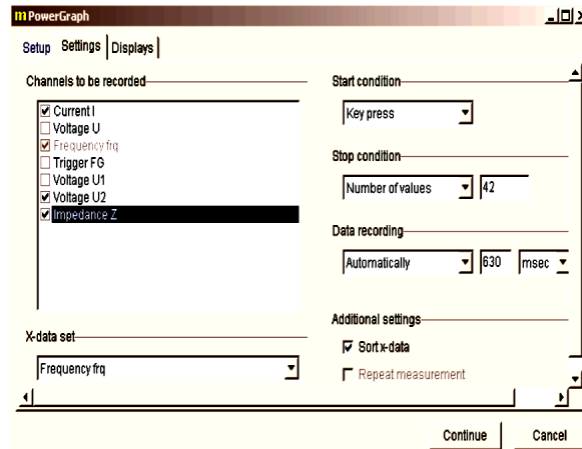

Figure 2.40:
- 6) Select **"Gauge" → "Cobra3 Universal Writer"** and select the parameters as seen in Figure 2.40.